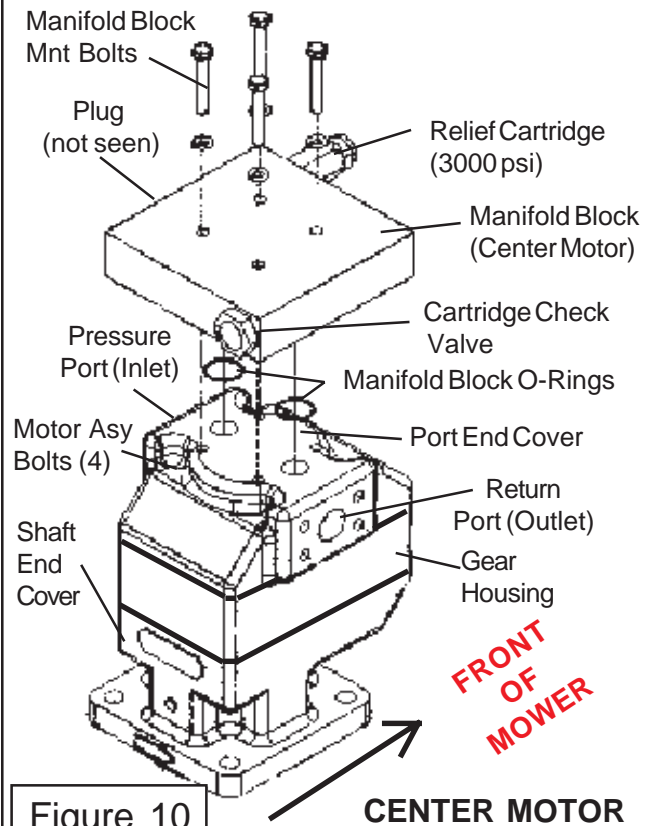

Figure 10
The Center Motor and the Wing motors are built different and will look different. The easiest way to ID which is which is by the four bolts that hold the motor together. On center motor the bolts are in the open as shown (figure 9), on the wing motors they are down inside a machined hole on the Port End Cover (figure 10, 11 & 12).
Center motor is very different from the wing motors in design. The Housings are more square than the wings. The manifold blocks are different, the center is thinner and will not use the solenoids that the wings do. The four assembly bolts on the center motor are visible under manifold block. (figure 10) The center motor is assembled to turn in a CW rotation which should be marked on the motor mounting flange from the factory. The rotation is determined by standing on the deck behind the motor facing forward. Make certain which motor is being serviced, Most parts will not interchange between the cent and wing motors.
The hydraulic connections are connected to the Motor for the inlet and outlet side with a 1 inch split flange connection (figure 10).
12. Remove shaft end cover (figure 10 item 4) from vice and turn it 180° over and re-insert it into vice. Remove the double lip seal by inserting the special seal removal tool (see figure 6 recommended tools). Make note of which way seal is removed. Inspect the shaft end cover seal seat area (figure 24).